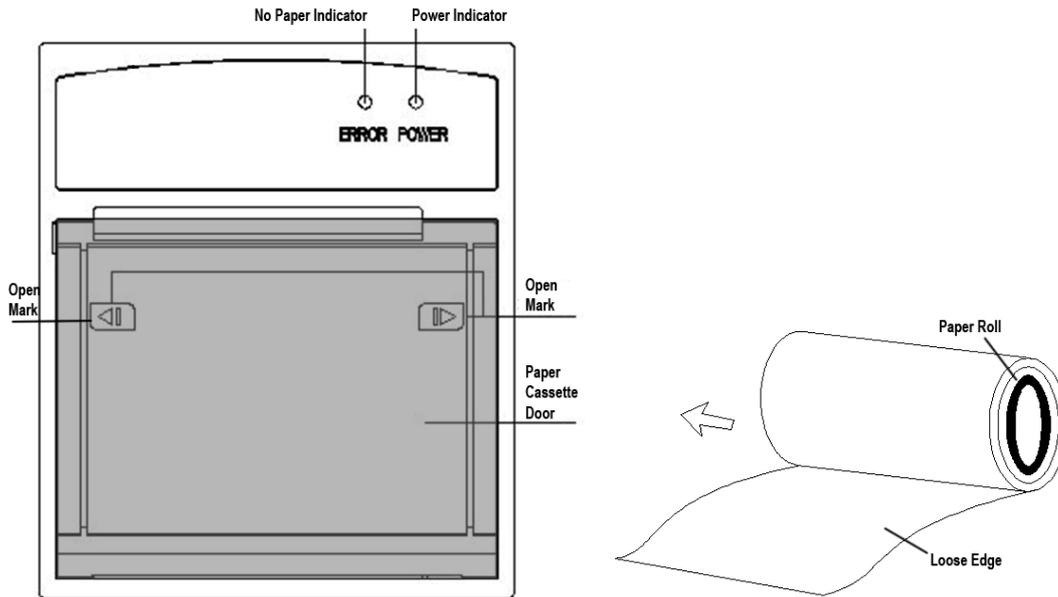

Fig. 6-3
(2) Paper replacement
- ① From the position with Open Mark pull the paper cassette door towards you until it is completely open. Refer to Fig.6-3.
- ② Remove the spent paper core.
- ③ Place a new roll of paper into the paper cassette with a few inches of paper being unrolled. Ensure proper orientation of paper roll.
- ④ Close the paper cassette door with a few inches of paper being kept outside of the door.